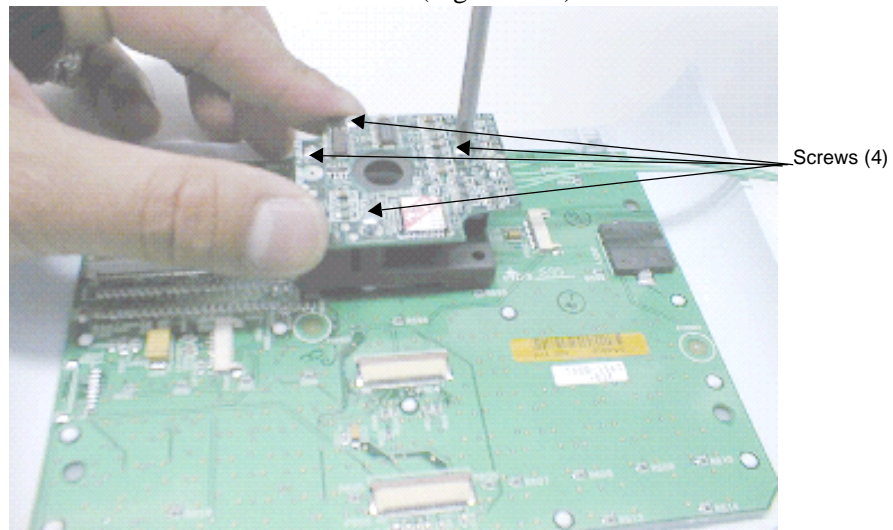

Figure 7.11 Removing the Trackball
12. Use a #1 Phillips screwdriver to remove the four screws that secure the Trackball to the Control Panel (Figure 7.11).